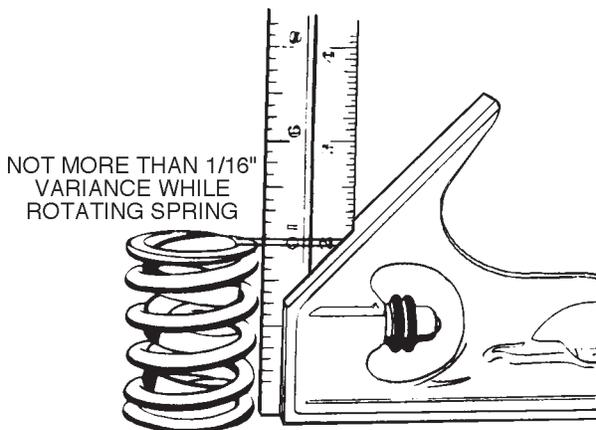

Figure 4-15. Valve Spring Check.
J. NOISY VALVES & VALVE SPRING CHECK (Figure 4-15)